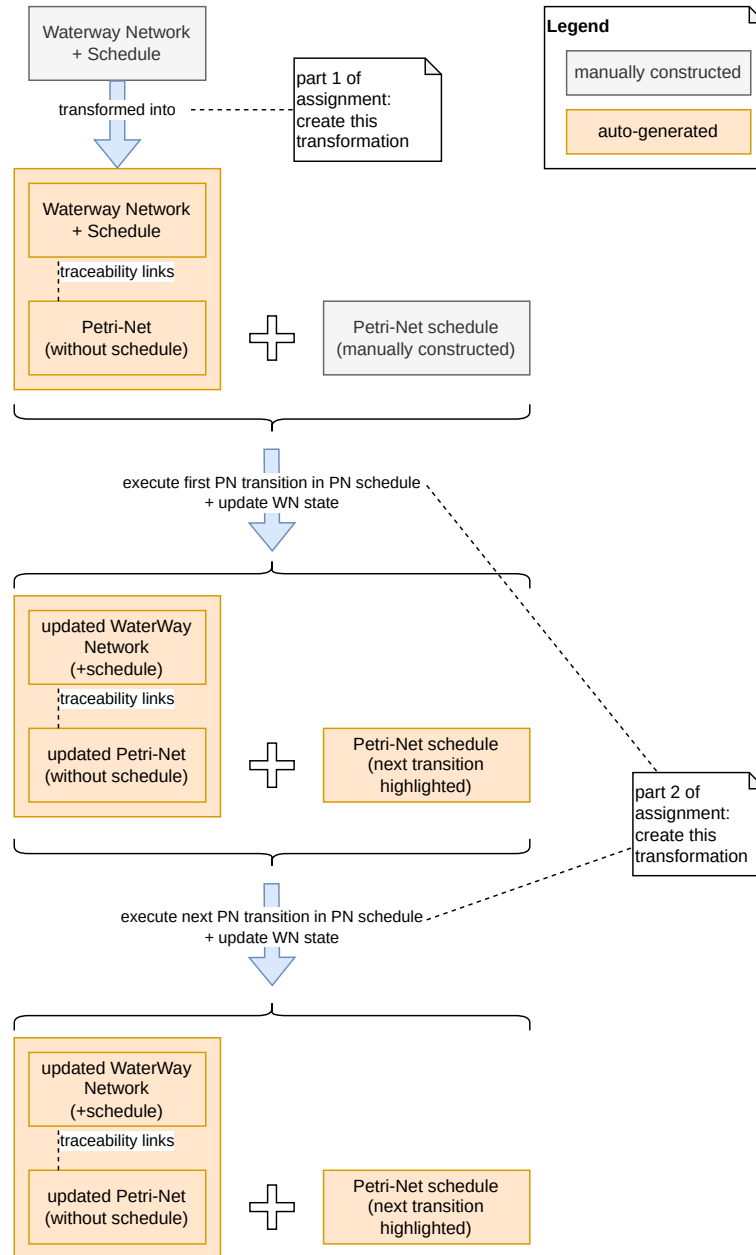

Figure 1: Overview of the different transformations that are part of this assignment.
- Do not confuse the Petri-Net schedule (a sequence of `ScheduledTransition`’s) with your WN schedule. Your WN schedule is to be encoded in your generated Petri-Net, not as a PN schedule. It is only once you have your Petri-Net, that the PN schedule tells AToMPM which transitions to fire. See figure 1 for an overview.